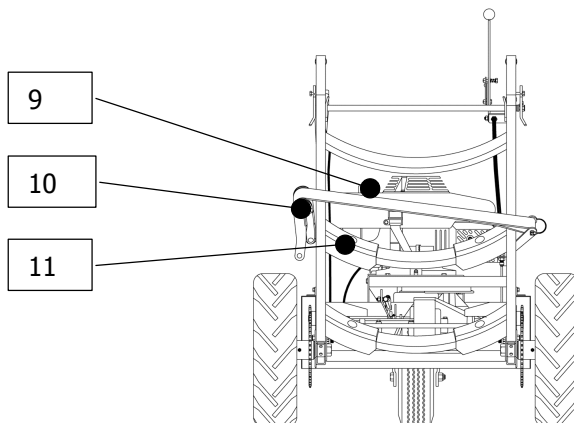

Figure 2 - RTC420NG3 Front View
1. Wheel bearing (L)
2. Wheel bearing (R)
5. Ratchet assembly (Figure 2, #9)